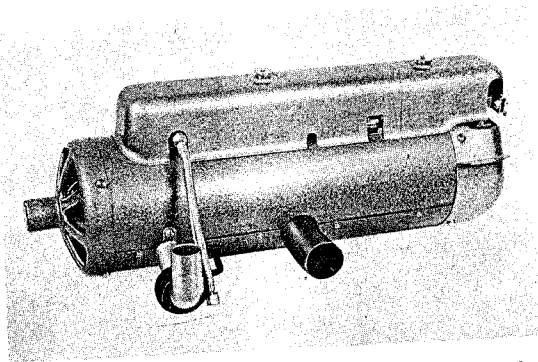

Fig. 2
1. Unscrew two knurled attaching nuts and remove heater cover (reference Fig. 2 and 3).